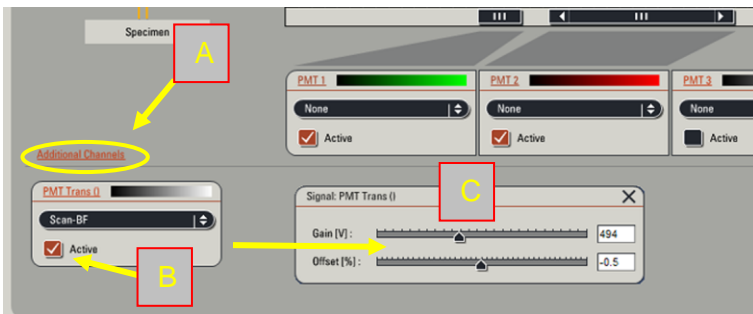

Fig. 23
In parallel to acquiring different spectral channels via PMT 1 to 3 it is possible to capture images in transmitted light mode. Although these images lack a degree of specificity and also contain out-of-focus light, they often give valuable spatial information such as cell outlines or the position of the cell nucleus. To access the settings, click on 'Additional Channels' in the main control panel (see Fig. 23 A) and activate the additional channel by ticking the appropriate box (B). The gain and offset can be set in the same way as has been described for the other PMT settings (C, and see above).